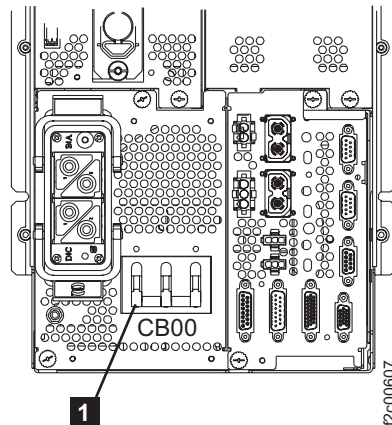

Figure 35. Rear view of PPS showing CB00
3. Verify the MAIN LINE circuit breaker **1** (CB00) on the rear of each primary power supply is set to Off (down). Refer to Figure 35.